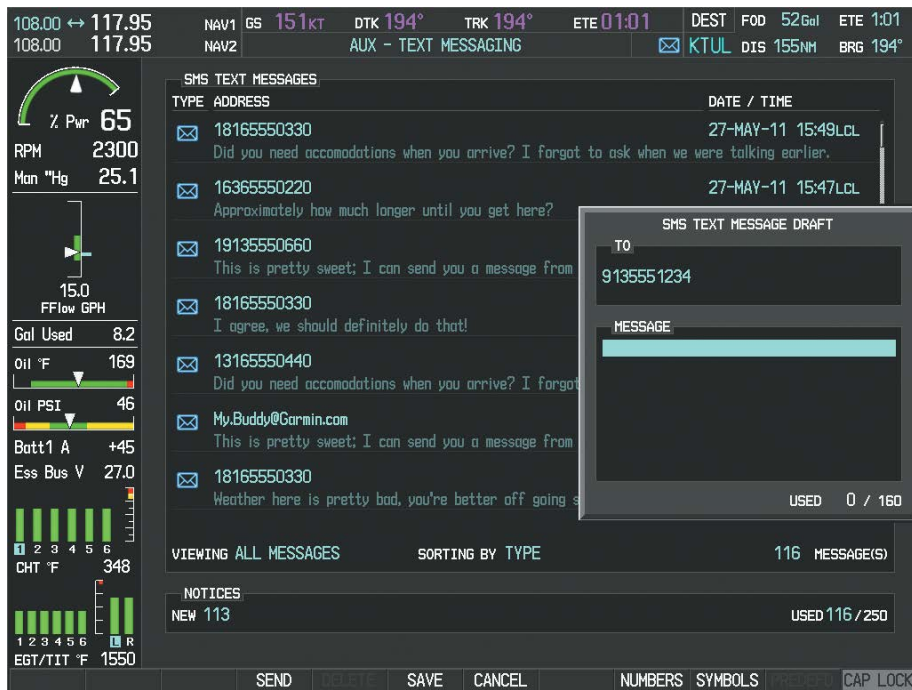

Figure 8-108 Composing a New Text Message
- 2) The TEXT MESSAGE DRAFT Window is now displayed with the cursor in the 'TO' field. Enter 00 + country code + area code + phone number when sending to a text capable telephone. An email address may also be entered. Entry can be accomplished through the alphanumeric keys on the MFD Controller, or combination of the **FMS** Knob on the controller and softkeys on the MFD. The **FMS** Knob is used to enter letters and numbers, or numbers can be entered from the MFD by selecting the **NUMBERS** Softkey. Select the **CAP LOCK** Softkey to create upper and lower case alpha characters. Special characters can be accessed by selecting the **SYMBOLS** Softkey. See Figure 8-108.